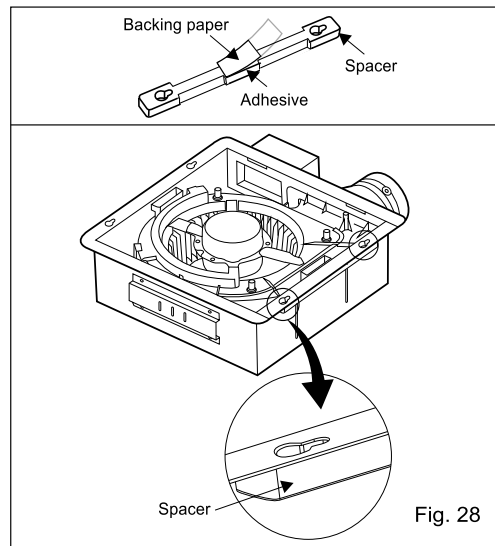

Fig. 28
2. Remove the backing paper from the spacer, attach the spacer to the flange of the fan body. The holes on the spacer should line up with the holes on the flange. (Fig. 28)